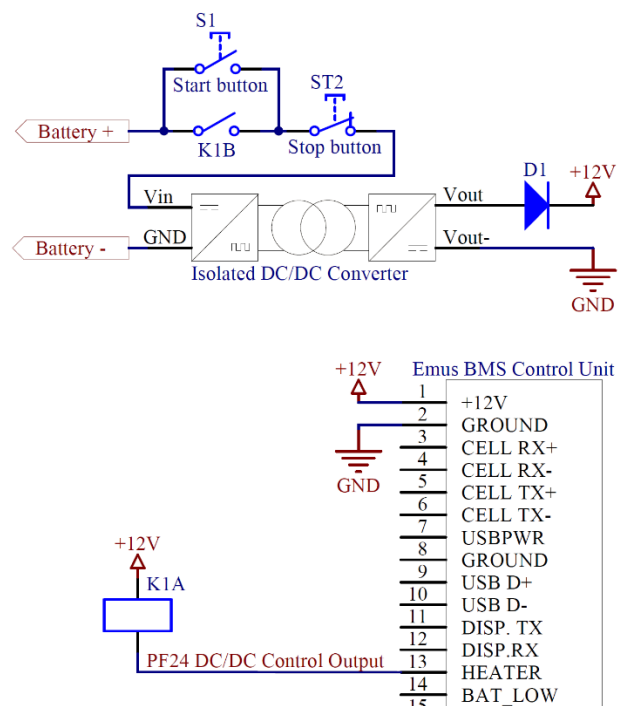

Figure 0.4 Power supply strategy 3
3. In applications that do not guarantee constant grid power but require the battery to be constantly in operation (i.e. off-grid energy storage systems, various backup energy systems, etc.), it is recommended to supply power to the Control Unit and the rest of EMUS G1 BMS components from the same battery that it manages directly through an isolated DC/DC converter. In this case the DC/DC converter is most likely dedicated to powering only EMUS G1 Control Unit and draws very low current from the battery, therefore it can be connected to it or disconnected from it without using an auxiliary battery, as shown in the example in Figure 0.4